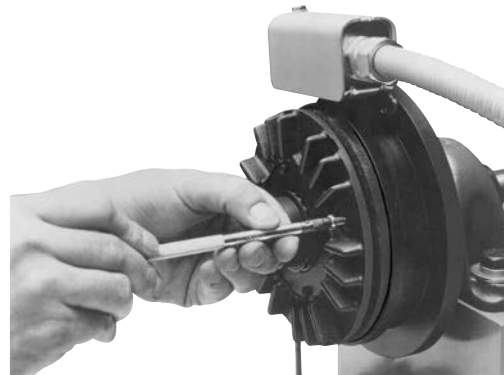

Figure 14
7. Attach the new friction material segments to the clutch rotor or brake magnet with screws through the appropriate access holes. Apply one drop of Loctite® (grade AA or equivalent) to each screw. (See Figure 14)